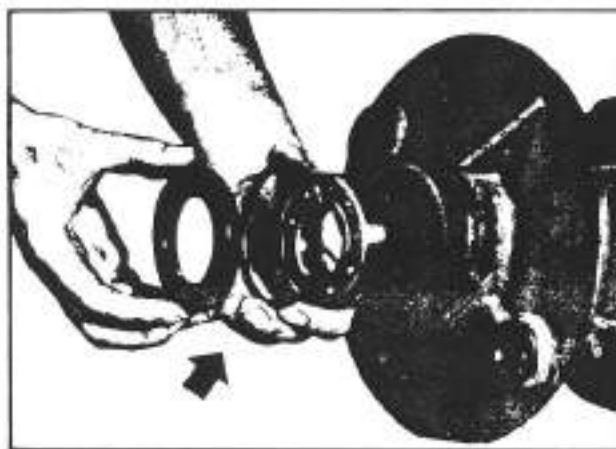

Fig. 3-54. Removal of the axle shaft components
- g. From the opposite side of the hub (see figure 3-54) take off in order: the oil seal, the retaining ring and the bearing.